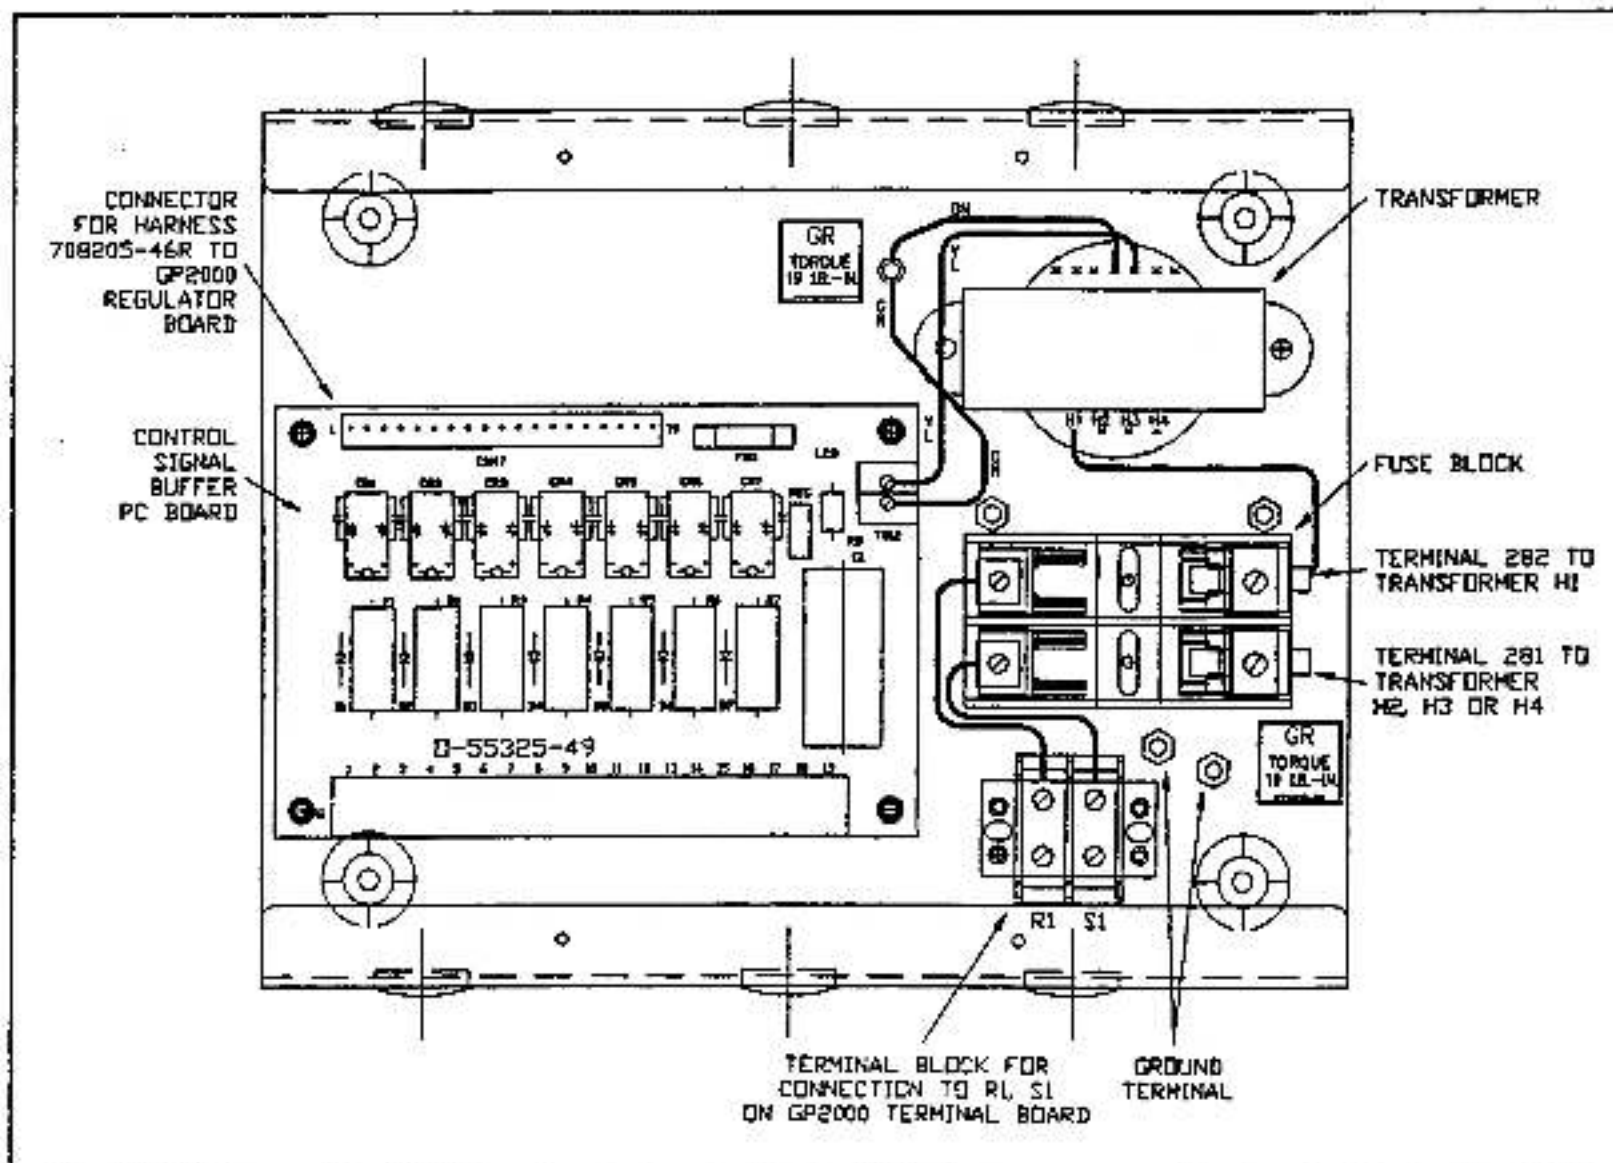

Figure 3. Control Signal Buffer Kit Wiring Locations.
- b. Run a suitable equipment grounding conductor unbroken from the Control Signal Buffer ground terminal to a ground terminal on the GP2000 controller. Tighten the connection to 19 in-lbs. Refer to Instruction Manual D2-3166 for GP2000 ground terminal location and to Figure 3 in this instruction sheet for Control Signal Buffer Kit ground terminal location.
- c. Connect terminal R1 on the Control Signal Buffer terminal board to R1 on the GP2000 terminal board. Refer to Figures 3 and 4.
- d. Connect terminal S1 on the Control Signal Buffer terminal board to S1 on the GP2000 terminal board. Refer to Figures 3 and 4.
- a. Attach the plug end of harness 708205-46R to connector TB12 on the Control Signal Buffer PC Board. Refer to Figure 3.